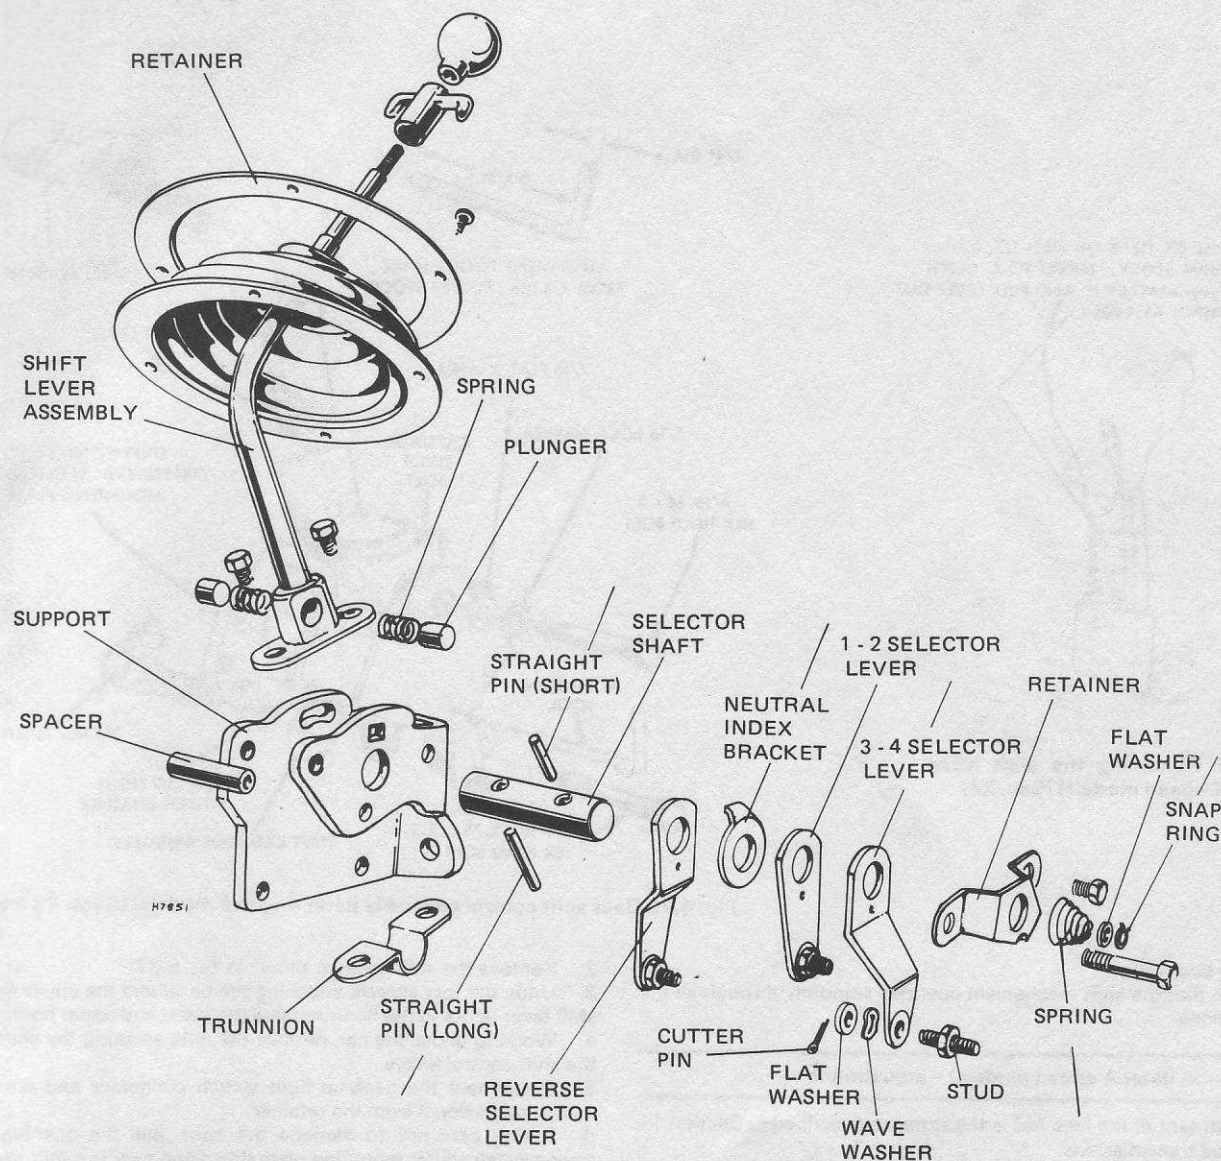

Fig. 6.35 Removing gearshift control (early 4-speed models) (Sec. 21)
- 1 Remove the six screws securing the shift lever boot retainer, and slide the retainer and boot up the lever. Remove the plungers and springs from the lever (see Fig. 6.35).